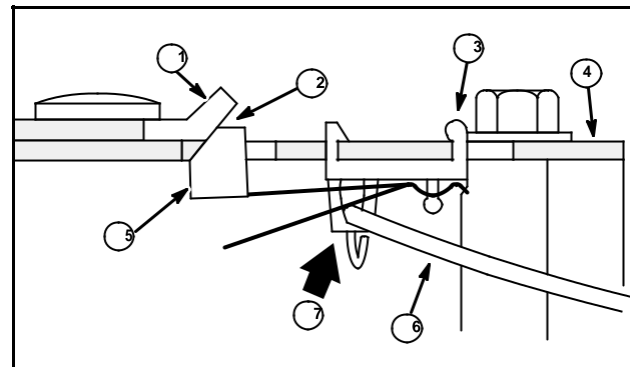

Fig. 25
1. For STOP position, release control completely. Control lever (1) at engine must contact (2) stop switch (3) at tang (5) shown in Fig. 25.
- Control bracket (4)
- Ground wire (6)
- Direction of movement (7)